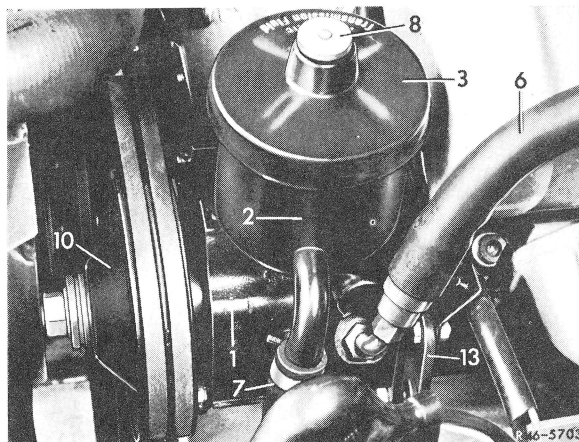

Fig. 1
1 Unscrew knurled nut (8) on supply tank (2). Remove closing cover (3), compression spring and damping plate. Drain oil from supply tank with syringe (Fig. 1).
2 Loosen high-pressure expanding hose (6) and return hose (7) on high-pressure oil pump. Close connections on pump and on hoses with blind plugs (Fig. 1).